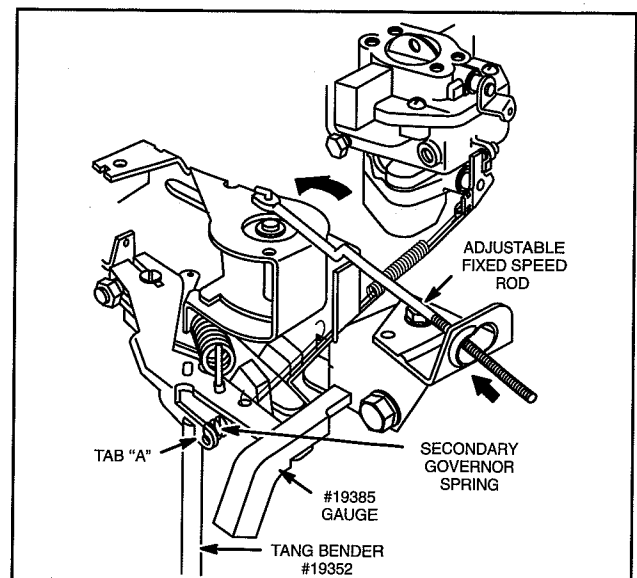

Fig. 25 – Adjusting Top No Load Speed
4. Install adjustment gauge, Tool #19385, with notch over end of governor lever and flat end of tool against governor control bracket as shown in Fig. 25.
5. Hold gauge in position and bend tab "A" so that all slack is removed from secondary governor spring between its two anchor points, Fig. 25. **DO NOT STRETCH SPRING.**